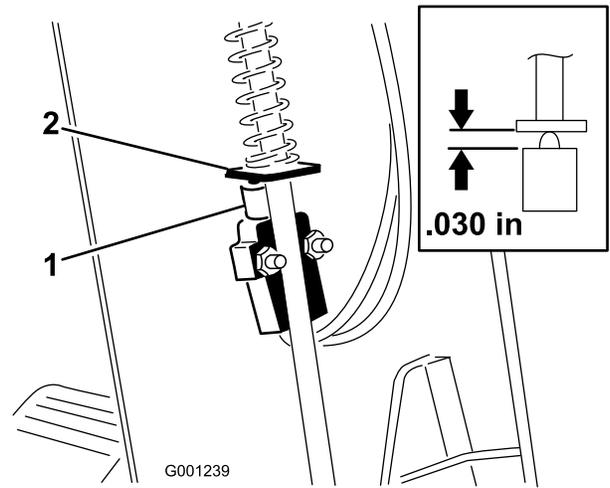

Figure 73
3. Slide the cover up the steering shaft to expose the parking brake switch (Figure 73).
5. Align the paddle of the parking brake rod with the switch plunger (Figure 73)
6. Press down on the parking-brake rod and push up the switch until the compressed length of the switch plunger is 0.7 mm (0.030 inches); refer to Figure 73.